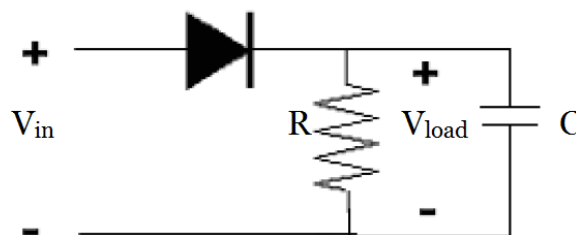

Figure 10. AC-DC converter.
1. Build the AC-DC converter shown in figure 10. Use  $R=510K\Omega$  and use  $C=22\mu F$ . Input signal  $V_{pp}=5V$ . Calculate the time constant of the circuit. Ask your TA to check your working circuit off. The curve will turn to sawtooth wave when frequency is too small. Then, find a smallest possible frequency that doesn't make sawtooth wave ( $V_{pp} \leq 5mV$  and one frequency will be enough).